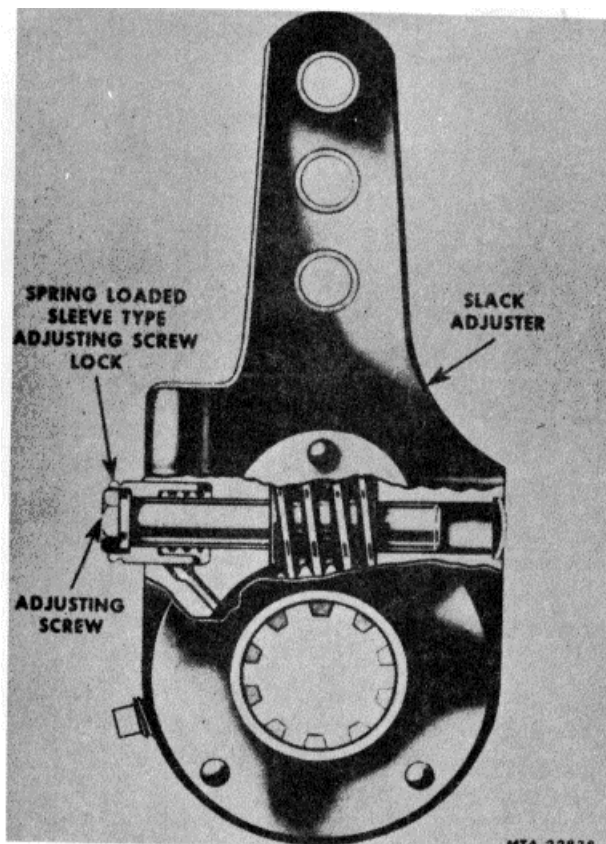

Fig. 20 Sectional View of Slack Adjuster
Slack adjusters provide method of adjusting brakes to compensate for brake lining wear, and also serve as a lever during braking operation, (Fig. 20).
2. Place the worm (4) and gear (5) in position in the body.
4. Place the lock spring in the recess formed by the sleeve and shaft, Fig. 20.
9. Position the cover plates (6) on the body and rivet together. The covers must be flat and in good contact with the body after riveting.